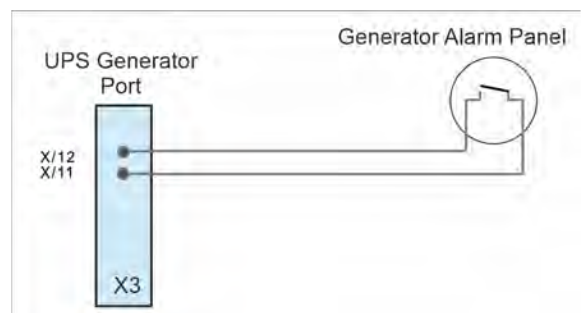

Figure 9.6 Generator ON Connection
2. Connect the cable as shown in Figure 9.6.